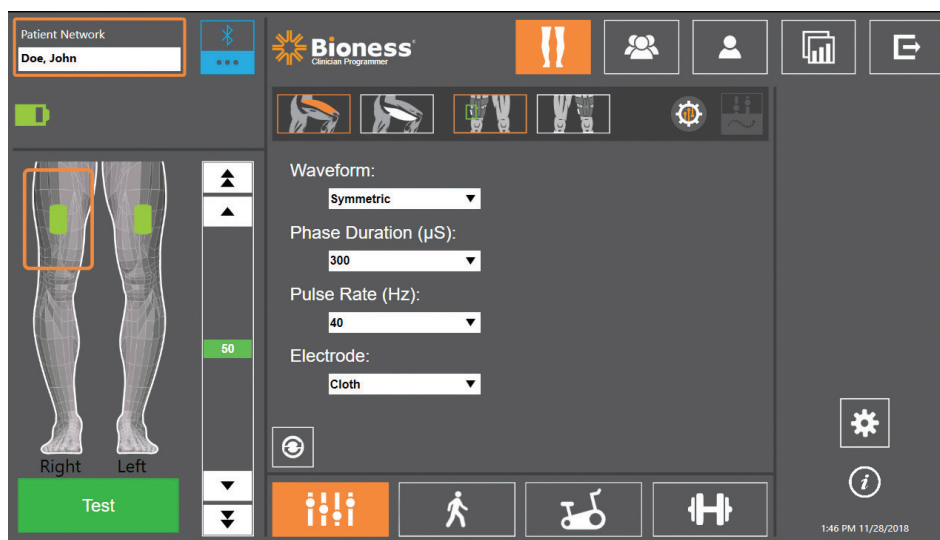

Figure 9-7: Programming Stimulation, Parameter Settings Screen
2. Press the Program Settings icon  in the navigation bar to open the Parameter Screen. See Figure 9-7.
3. The screen will show the linked EPG(s) as a green icon on the leg diagram located on the left side of the Parameter Screen. See Figure 9-7. The selected EPG will have an orange box outline around it.